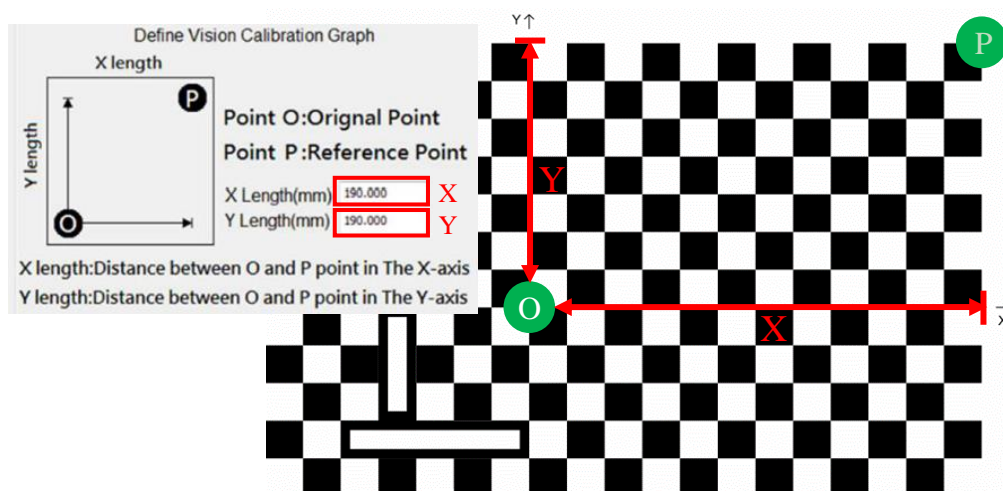

Figure 6-13 Schematic diagram of the relationship between the standard calibration plate and the O and P points.
4. As shown in Figure 6-13, after clicking the "CNV1", set the distance between the O and P points in the "Vision System and Conveyor Belt Calibration". The length of X and Y can be calculated by determining the grid point spacing using the selected standard calibration plate.